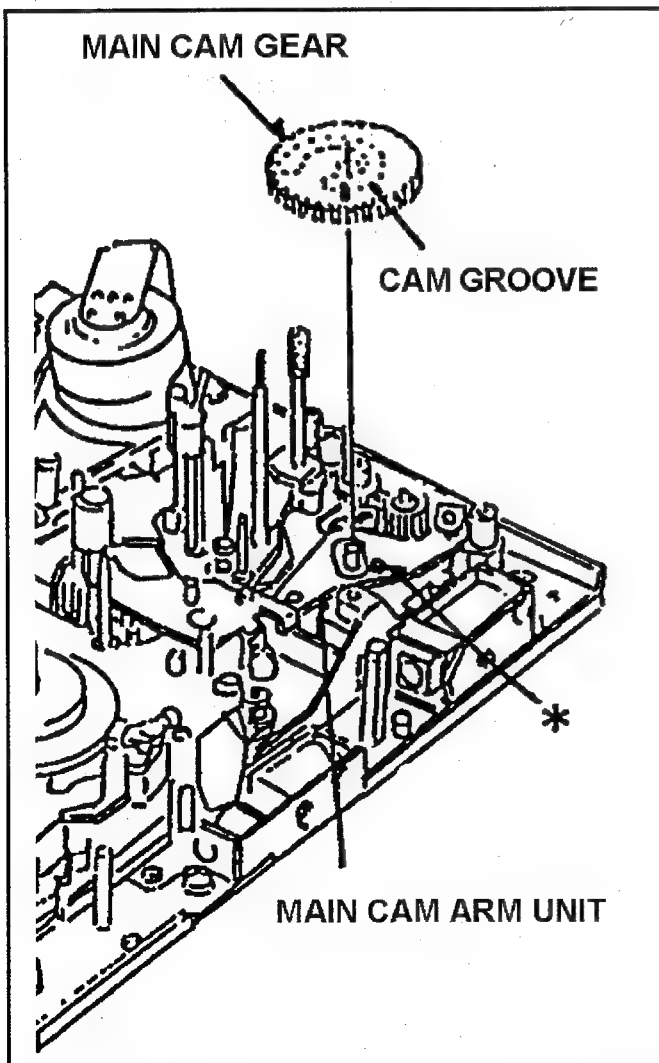

Fig. 10-16-1 Removal of Main Cam Gear
3. Remove the Pinch Solenoid Unit (Refer to item 10-5) and Loading Motor Neutral Unit (Refer to item 10-4).
4. Remove the Main Cam Gear as shown in Figure 10-16-1.
1. Install the Main Cam Gear so that the pin of Main Cam Arm Unit (※) matches the groove position of Main Cam Gear as shown in Figure 10-16-1.
3. After installing, Pinch Solenoid Position Adjustment is required (Refer to item 1-2 of section 3).